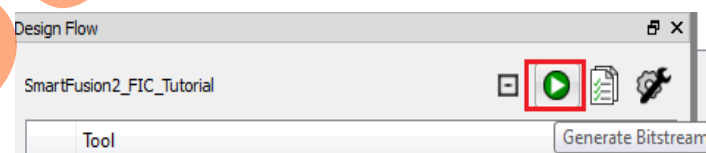

Figure 36 • Generate Bitstream
- Click **Generate Bitstream** as shown in Figure 36 to complete place-and-route, verify timing, and generating the programming file.